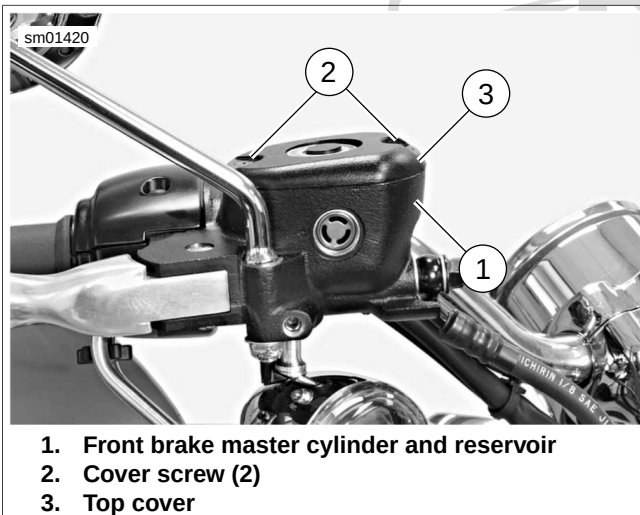

Figure 1-20. Front Brake Master Cylinder Reservoir (typical; XL model shown)
- See Figure 1-20. Position motorcycle so that front master cylinder reservoir (1) is level.